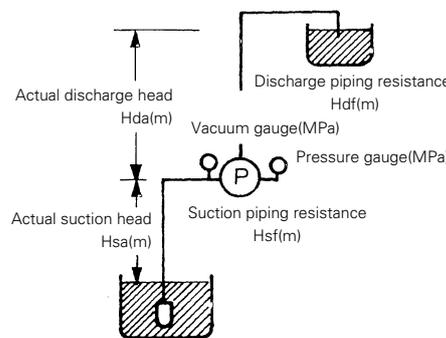

Fig.28
4) The total pump head for the piping shown in Fig. 28 is expressed by $H = (Hsa + Hsf) + (Hda + Hdf)$. Vacuum gauge reading (converted value in m) = $Hsa + Hsf$